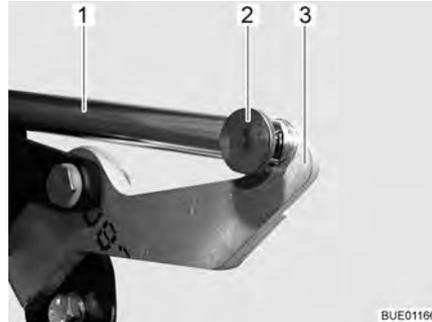

Fig. 102 Drive
- Remove the connection (e.g. splint and pin) (Fig. 102,2) between the push rod (Fig. 102,1) and lever (Fig. 102,3).